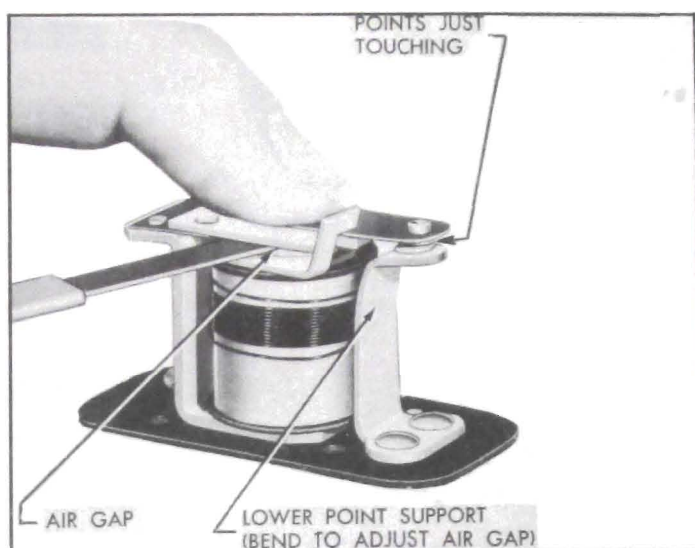

Figure 10-76—Horn Relay Air Gap Adjustment
2. Push relay armature down until contact points just touch, then check air gap between armature and end of core using feeler gauges. Air gap should be .014". Adjust gap to .014", if necessary, by bending the lower point support. See figure 10-76.